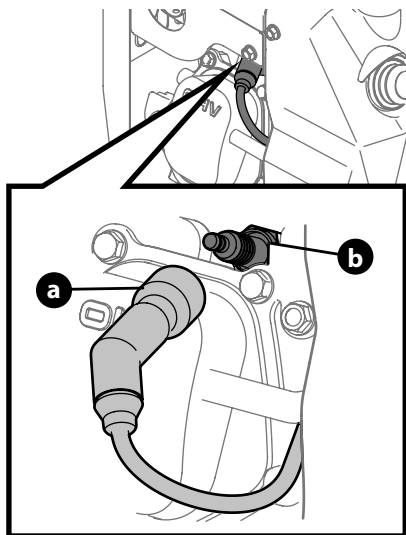

Figure 9
1. Carefully disconnect the spark plug wire (a) and keep it away from the spark plug (b). Refer to Figure 9 for spark plug location.
1. Remove the spark plug boot (Figure 9).